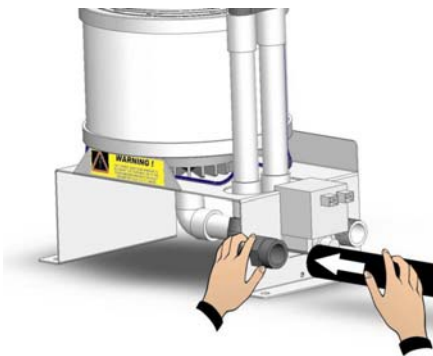

Fig. 18
3. Connect the water discharge (emptying) pipe to the manifold (25 mm diameter) and fix it in place with the supplied clip (fig. 18 and 19).